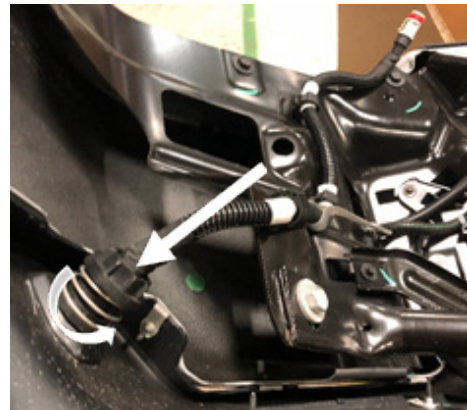

Figure 18
17. If equipped, remove the engine heater plug located on the driver side of the truck bumper. Push the bumper in against the spring and turn counterclockwise, once unclipped pull out from the bumper. Figure 18.